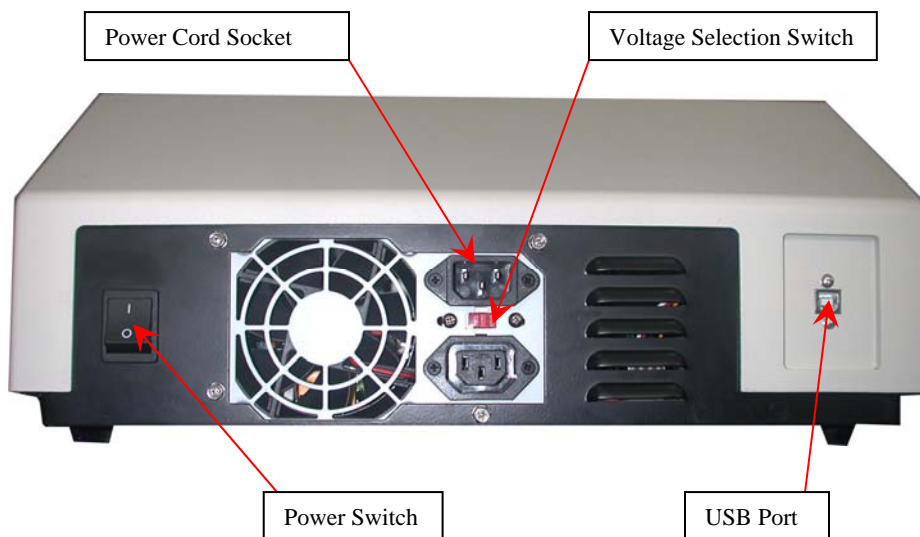

Figure-2 Backside of **UNICO 1000**
3. Select either **230V** or **115V** on the Voltage Selector Switch on the backside of the **1000** shown in Figure-2, to match your local main voltage supply.